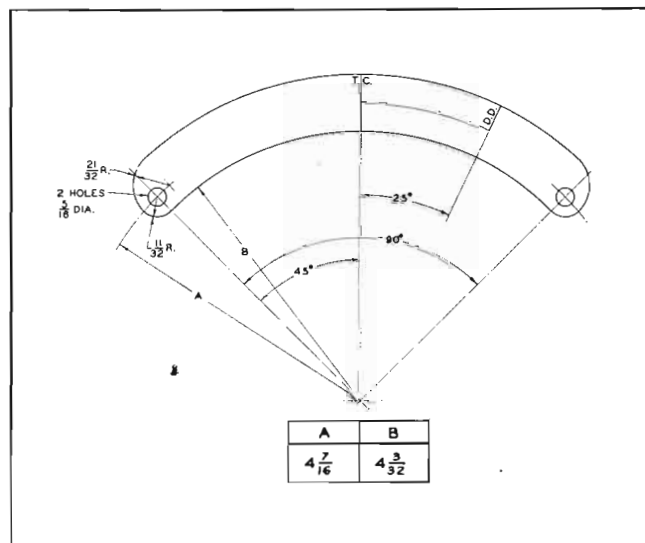

Figure 139 — Diagram for Timing and Synchronizing Magnetos
a. Attach a template made up in accordance with figure 139 to the nose section of the engine at the two top holes which are provided for attaching cowling brackets.